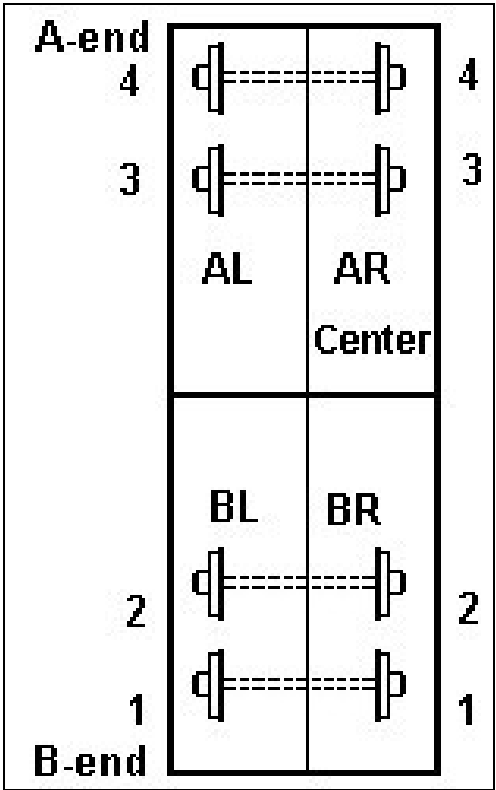

Figure 8-1. A and B End of Cars
**Rule 8-1. A AND B END OF CARS.** On cars with one hand brake, the end of the car with the hand brake is the “B” end. The other end is the “A” end. On cars with two hand brakes, the letters “A” and “B” are stenciled on the appropriate ends (see Figure 8-1).